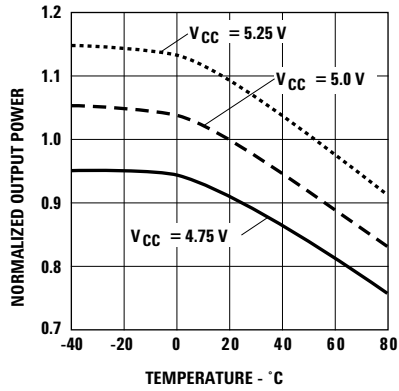

Figure 4. Typical normalized optical power vs. temperature (in recommended drive circuit)
3. Minimum and maximum values for  $P_T$  over temperature are based on a fixed drive current. The recommended drive circuit has temperature compensation which reduces the variation in  $P_T$  over temperature, refer to Figures 4 and 6.